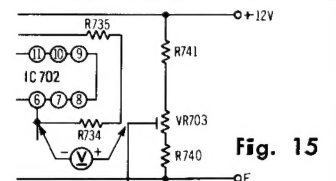

Fig. 15
<p>G Capstan motor circuit adjustment</p> <p>Condition:</p> <ul style="list-style-type: none"> * Playback mode <p>Equipment:</p> <ul style="list-style-type: none"> * DC voltmeter * Oscilloscope 	<p>A. Standard DC power supply voltage adjustment</p> <ol style="list-style-type: none"> 1. Measure the DC voltage between central point of VR703 and ⑥ terminal of IC702 as shown in fig. 15. <div style="border: 1px solid black; padding: 5px; width: fit-content; margin: 10px auto;"> Standard voltage: $0 \pm 0.05 \text{ V}$ </div> <p>2. If measured voltage is not within standard, adjust VR703.</p> <p>B. Phase lock point adjustment</p> <ol style="list-style-type: none"> 1. Measure the DC voltage between ④ terminal of IC702 and ground as shown below. <div style="border: 1px solid black; padding: 5px; width: fit-content; margin: 10px auto;"> Standard voltage: $5.2 \pm 0.1 \text{ V}$ </div> <p>2. If measured voltage is not within standard, adjust VR702.</p> <p>C. Position detecting signal output level adjustment</p> <ol style="list-style-type: none"> 1. Connect oscilloscope to test point (T.P. [P.V]). 2. Measure the peak-to-peak voltage of position detection signal of test point with the oscilloscope. 3. If the measured signal voltage is markedly different from the voltage shown below, make the necessary adjustment with VR701.